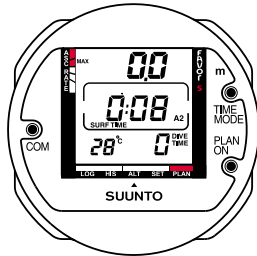

Fig. 4.11 PERSONAL/ ALTITUDE ADJUSTMENT SETTING, STEP 5
5. The process is ended by the RETURN command, i.e. by connecting all three contacts at the same time (Fig. 4.11). The dive computer will return to the surface mode.